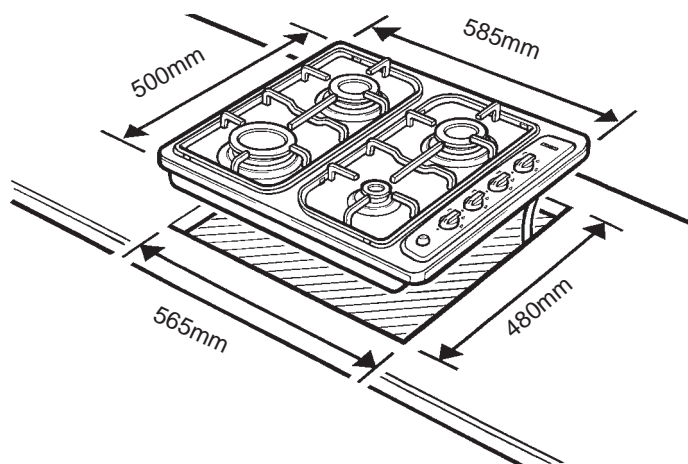
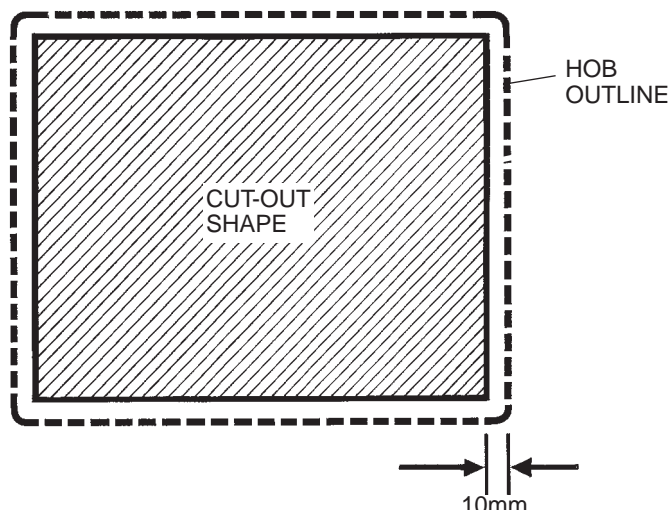

Figure 8 - cut-out dimensions
Figure 9 - marking the cut-out
4. Lift the unit away to a safe distance, and check that the outline produced corresponds with the hob dimensions (585 x 500) in Figure 8.
5. Mark the cut-out (565 x 480 as in Figure 8) onto the masked work surface. The cut-out line should be in a central position so that there is an even space of 10mm between the cut-out shape and the hob outline, all the way round (Figure 9).
6. Ensure that no pipes, hoses or wires are present as obstructions below the worktop, then cut the opening into your work surface exactly where you have marked the cut-out shape (Figure 9).